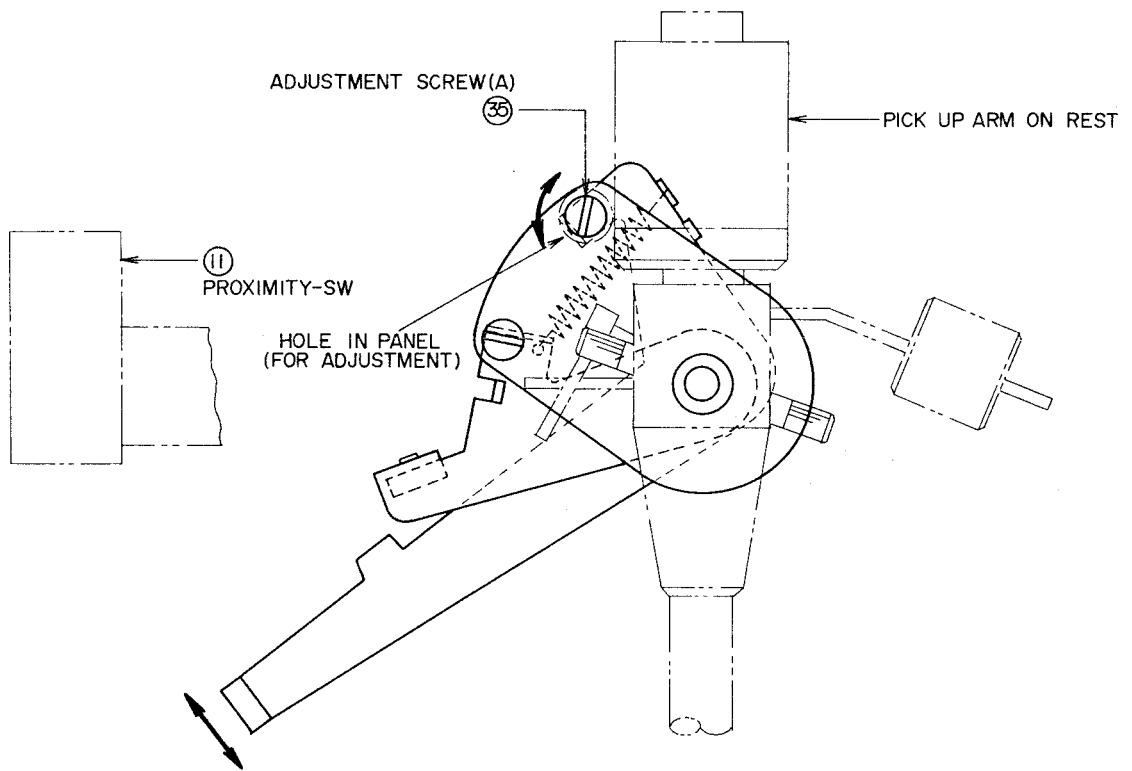

Fig. 12
(1) LEAD OUT POSITION
Stationary the pick-up arm on arm rest and remove the rubber plug on panel toward the rear part of the pick up arm, when adjustment screw (A) (Fig. 12) is turned to the right through the hole in panel with a (-) screw driver, lead out will be sooner and when turned to the left, lead out will be delayed.